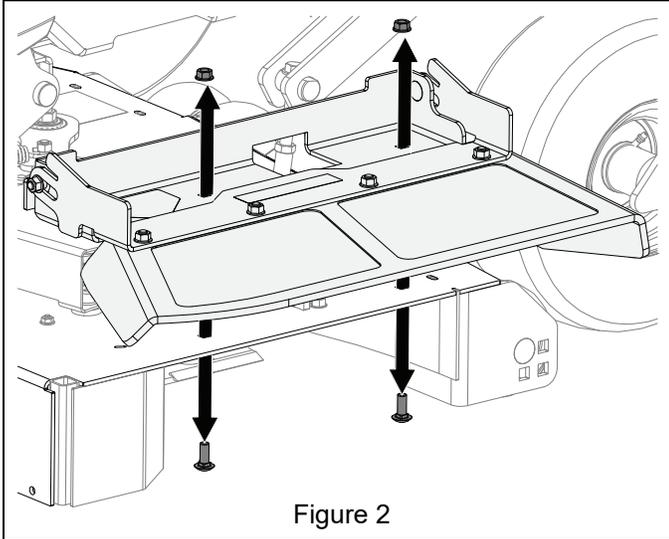

Figure 2
3. Remove two 3/8" x 1" round head square neck bolts and two 3/8" center locking flange nuts securing discharge chute assembly and remove chute assembly. Retain hardware for reinstallation and discharge chute for use without OCDB kit. See Figure 2.
2. Position discharge chute assembly on deck and retain with hardware removed in Figure 2. Secure discharge chute with one 1/2" x 6 1/2" hex bolt (item 13), one 1/2" x 1 7/16" flat steel washer (item 14) and one 1/2" center locking flange nut (item 15). See Figure 6.